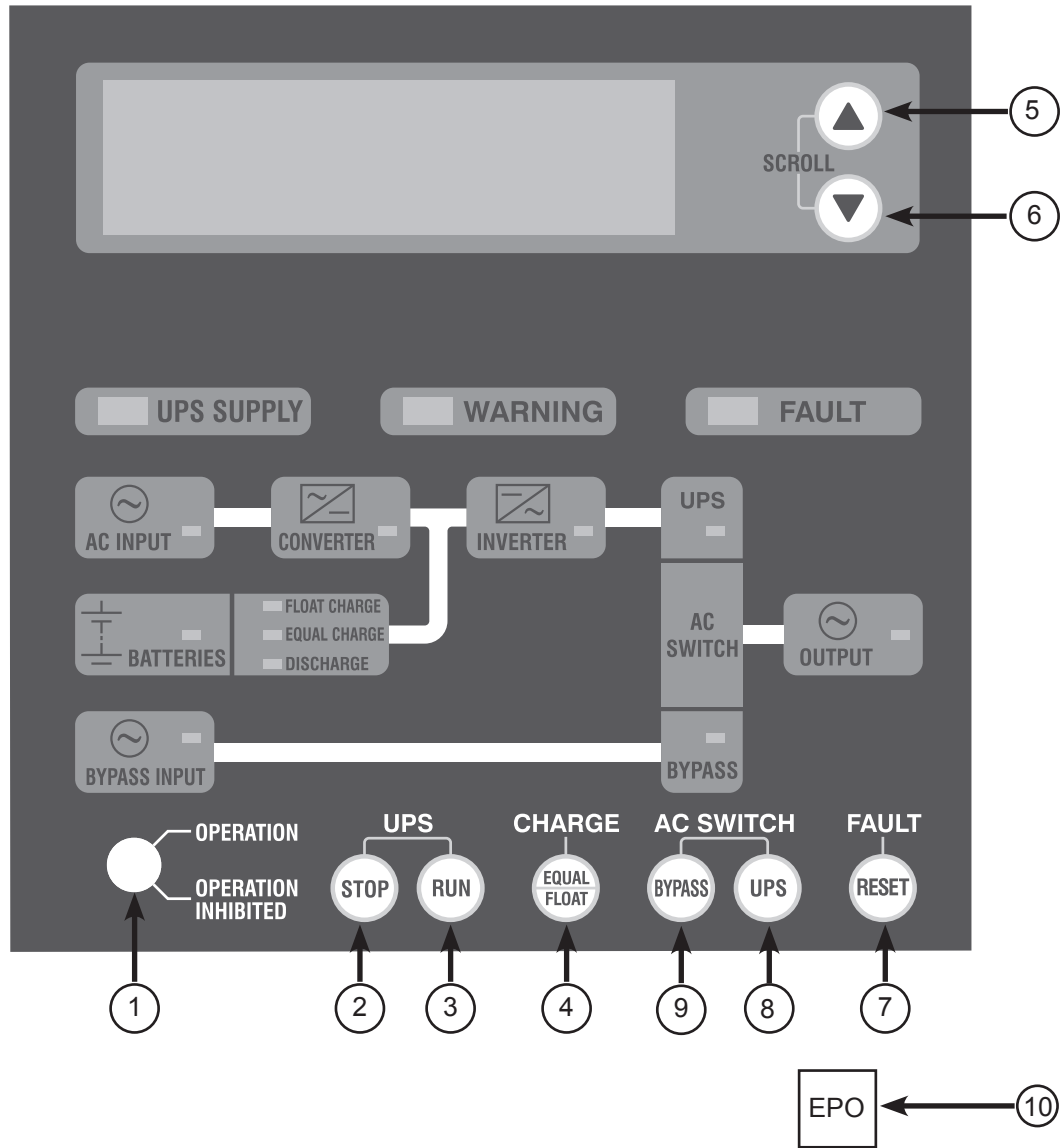

FIGURE 13.1 – GRAPHIC DISPLAY PANEL KEY-SWITCH/OPERATING BUTTONS
**TABLE 13.1 BUTTON AND INDICATOR FUNCTIONS (See fig. 13.1 and 13.2)**
The key-switch and operating buttons on the graphic display panel are shown in Figure 13.1. See the sections titled “Key-switch” and “Operating buttons” for each function.